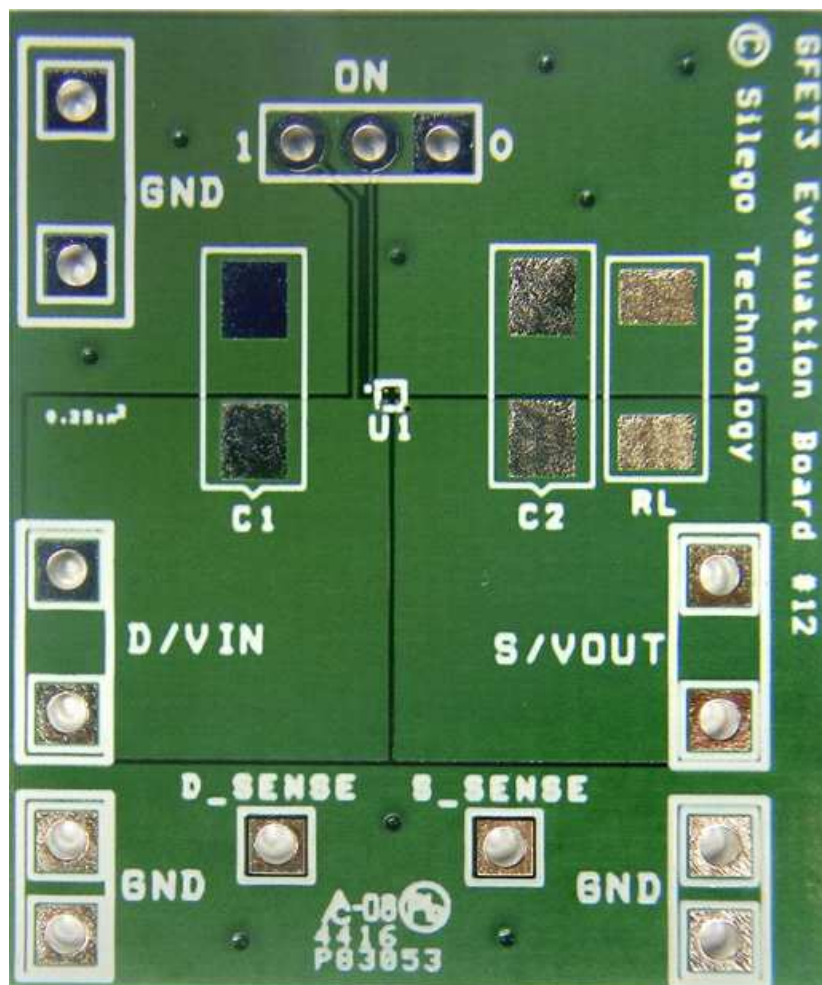

Figure 7. SLG59M1736C Evaluation Board
1. Since the VIN and VOUT pins dissipate most of the heat generated during high-load current operation, it is highly recommended to make power traces as short, direct, and wide as possible. A good practice is to make power traces with absolute minimum widths of 15 mils (0.381 mm) per Ampere. A representative layout, shown in Figure 7, illustrates proper techniques for heat to transfer as efficiently as possible out of the device;
A GreenFET Evaluation Board for SLG59M1736C is designed according to the statements above and is illustrated on Figure 7. Please note that evaluation board has D_Sense and S_Sense pads. They cannot carry high currents and dedicated only for $R_{DS(ON)}$ evaluation.